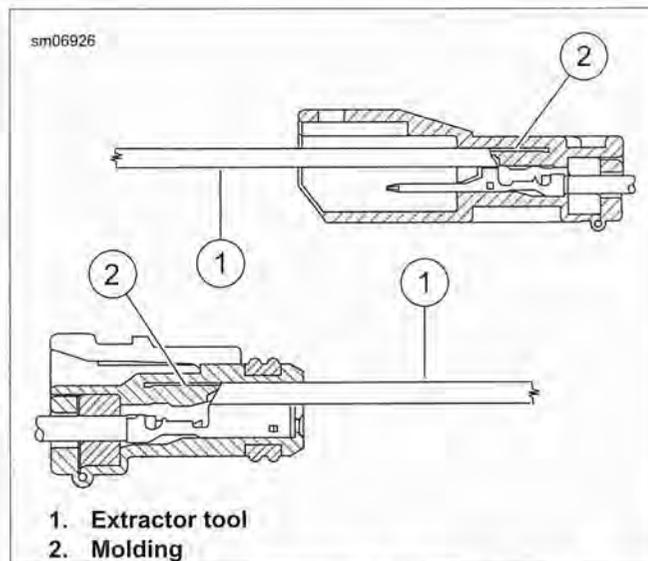

Figure A-37. JAE MX19 Terminal Removal
2. See Figure A-37. Insert the extractor (1) into the opening above the terminal and press the plastic molding (2) up and out of the way.